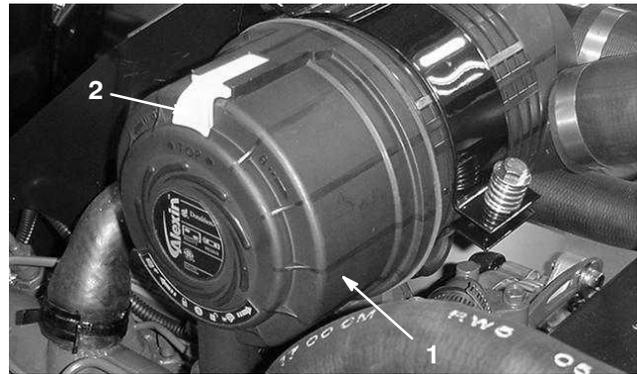

Figure 38
1. Release the latches securing the air cleaner cover to the air cleaner body (Fig. 38).